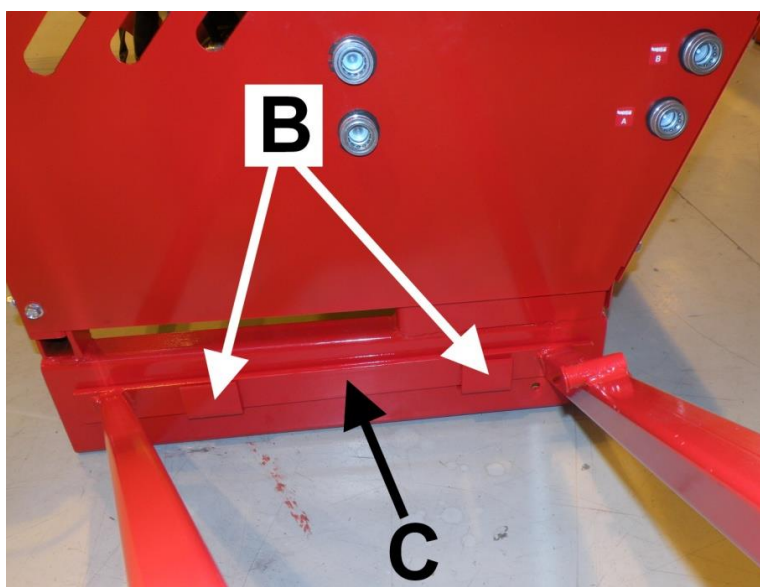

Figure 4.
3. Lower the input conveyor down with your right hand and, at the same time, use your left hand to guide the support leg C into slots B, as instructed in Figure 4.